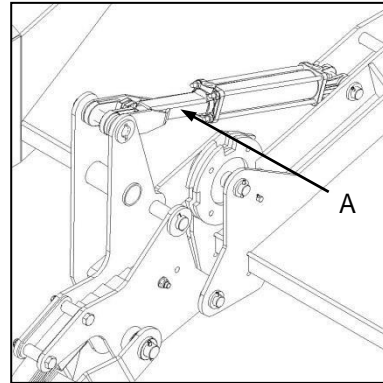

Fig. 6
- ✔ Engage the transport locks (Fig. 6-A).
- ✔ Sluit die vervoerslotte (Fig. 6-A).